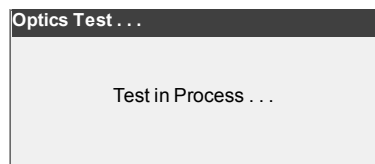

Fig. 7-18 Optics Test
- The system will now check the optics (Fig. 7-18).